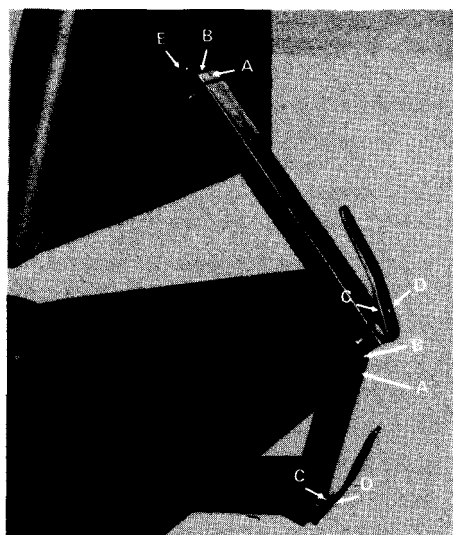

Fig. 1
Headlock Adjustment: (111 Only) To adjust the holding action of the headlock, release the lock handle and loosen the lock screw Item A, Fig. 1, using a 3/32" allen wrench. With a 3/16" allen wrench or a 1/2" wrench, tighten the adjusting screw, Item B, Fig. 1, to obtain the greatest possible holding power without making the handle operation too difficult. Then with the handle in locked position, tighten the lock screw.
For proper action the handle stop must be adjusted so that when the handle is pushed down for locking action, the handle reaches a point where it wants to lock itself by suddenly going over center. The proper position of the stop is just a fraction over center. The stop is adjusted by loosening the lock nut Item C, Fig. 1 and turning the set screw stop Item D, Fig. 1 with a 1/8" allen wrench. After adjustment, lock the stop screw with the lock nut.
- 1) Remove the (4) screws which mount the headrest to the brackets of the headlock. (Item E, Fig. 1).